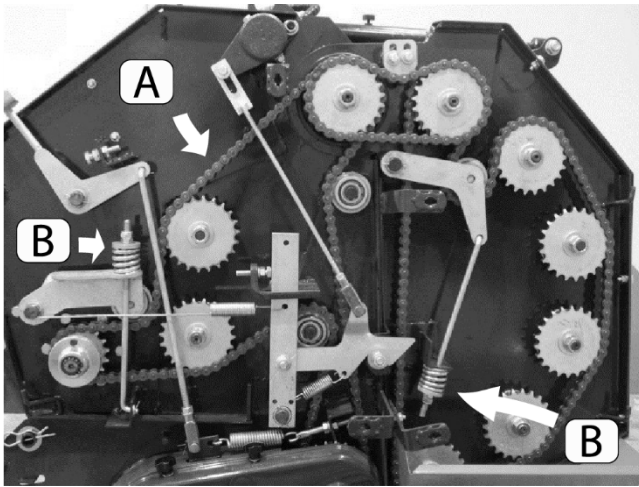

Figure 7 Left side of baler (drive chain & tensioners)
The baler's rollers are turned by a series of drive chains (Figure 7, A). Tension springs (B) provide proper tension to each chain. See Section 6.4.1 for chain tension specifications.